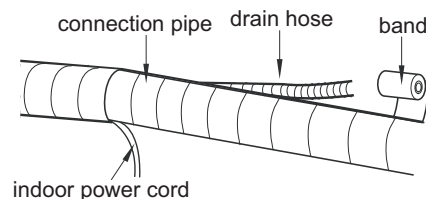

Fig.15
2. Reserve a certain length of drain hose and power cord for installation when binding them. When binding to a certain degree, separate the indoor power and then separate the drain hose.(As show in Fig.15)